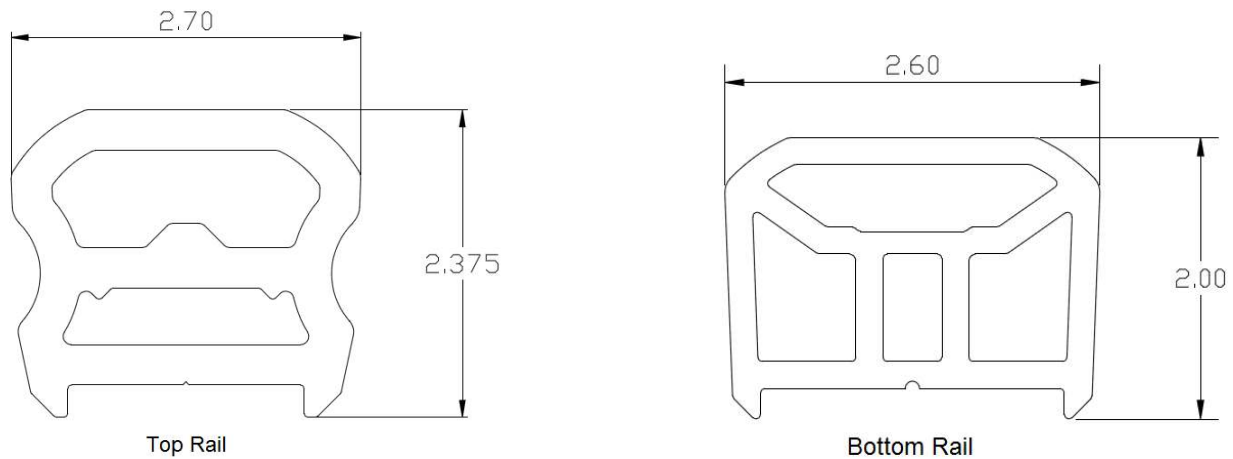

FIGURE 3 - RADIANCERAIL® EXPRESS, RAIL PROFILES
3.3.1. *RadianceRail® Express* rails (top and bottom) and post sleeves are co-extruded with a PVC color cap layer and wood/plastic composite core. See Figure 3.